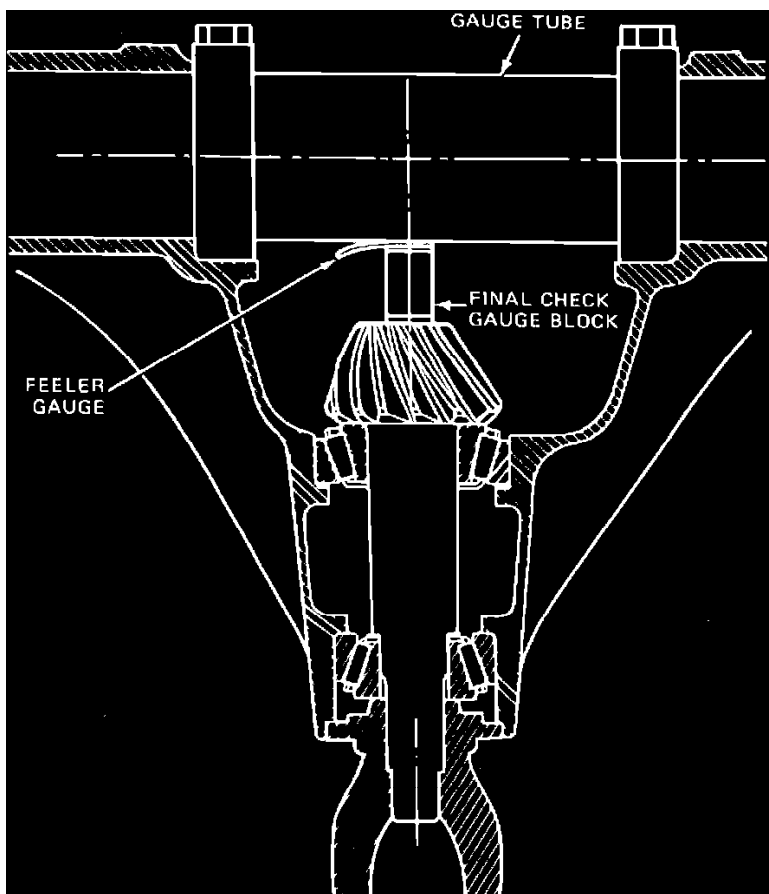

Fig. 5 Final pinion depth check
5. Install suitable gauge tube in housing, then the bearing caps and cap attaching bolts, **Fig. 5**. Torque cap attaching bolts to 80---90 ft. lbs. on except model 30 axle or 35---50 ft. lbs. on model 30 axle.
6. Insert proper final check gauge block on top of pinion face under the gauge tube, **Fig. 5**. Place thumb on gauge block to ensure block is level.